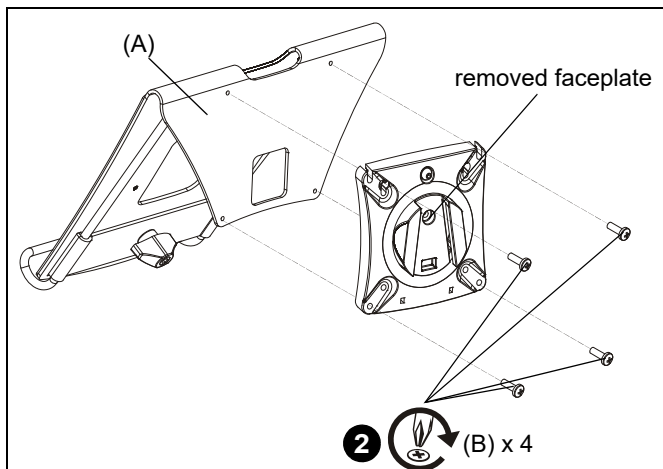

Figure 2
2. Use four M4x12mm Phillips pan machine screws (B) to attach laptop tray (A) to removed faceplate. (See Figure 2)